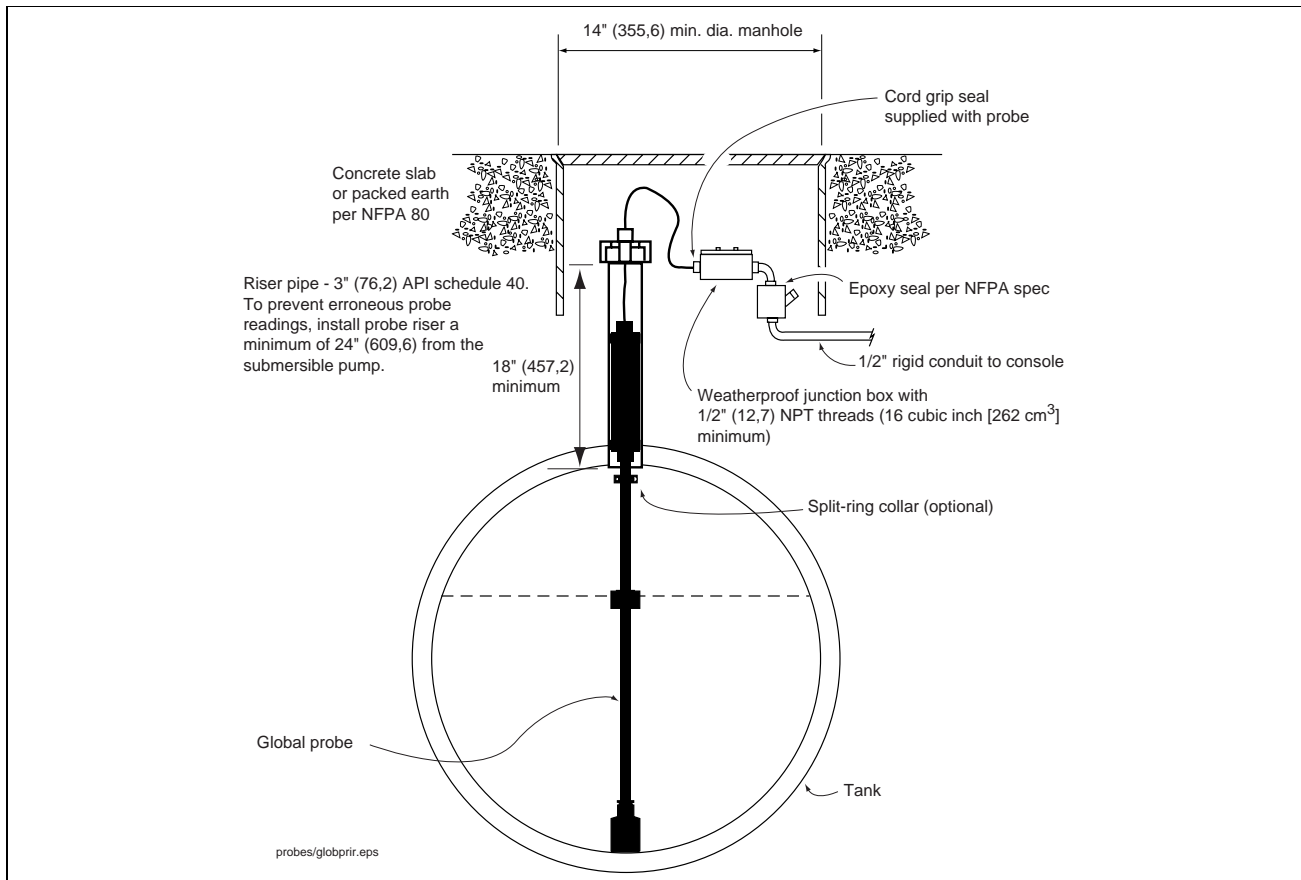

Figure 7. Global Probe Installation Requirements
5. Carefully lower the probe into the riser pipe until the boot rests on the bottom of the tank [See Figure 7 on page 14 for UST installation].